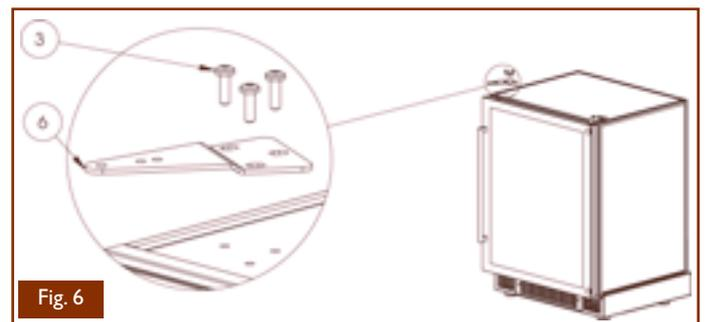

Fig. 6
- Fit the hinge without a pivot (6) using the screws (3) (Fig. 6).